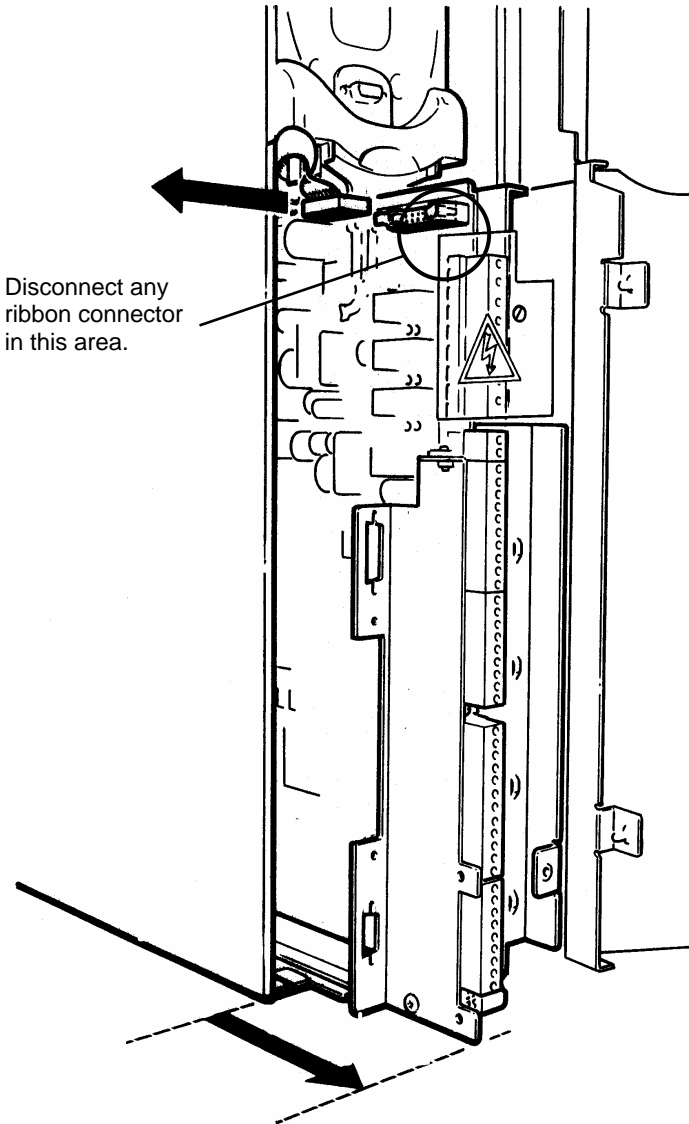

Figure 3-7 Drive module – removing the control board
- Slide the control board completely forward out of the drive, disconnecting any ribbon connectors located at the top of the board, (see Figure 3-7), and noting their positions for ease of re-connecting.